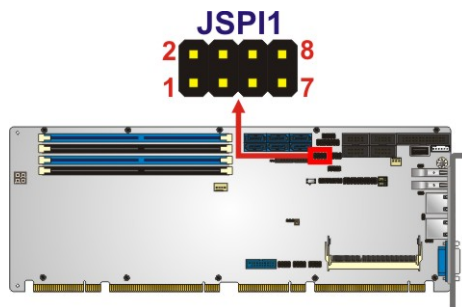

Figure 3-25: SPI Flash Connector Location
- CN Location:** See Figure 3-25